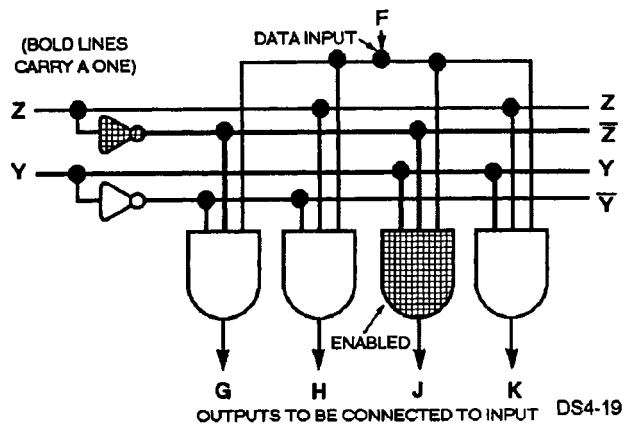

Figure 4-19.—Example of a demultiplexer circuit.
• **Demultiplexer** —A data demultiplexer routes data from one input to any one of several outputs. Refer to figure 4-19.